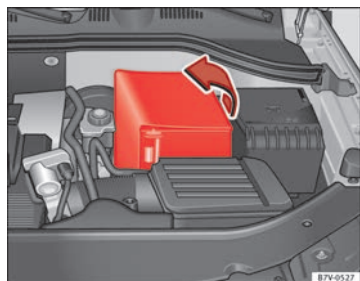

Fig. 177 In the engine compartment: Unfold the vehicle's battery hose
- *In the case of a hose:* fold the cover to one side to remove ⇒ Fig. 177.